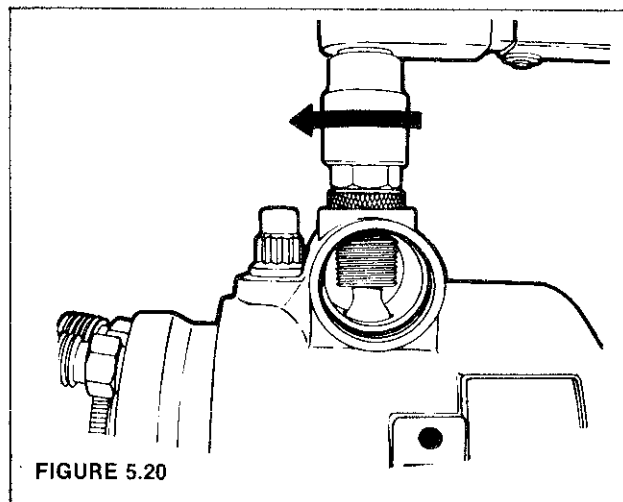

FIGURE 5.20
STEP 20 Install the cam advance screw (Figure 5.20). Assemble the 15499 bristol socket cam advance screw wrench and 15500 cam advance screw bushing into the advance screw hole plug. Tighten the cam screw to the specified torque. (See Service Bulletin 186). Check cam ring for freedom of movement (locking down the screw can sometimes twist the cam). If cam is not free, tap the screw lightly with a brass rod.